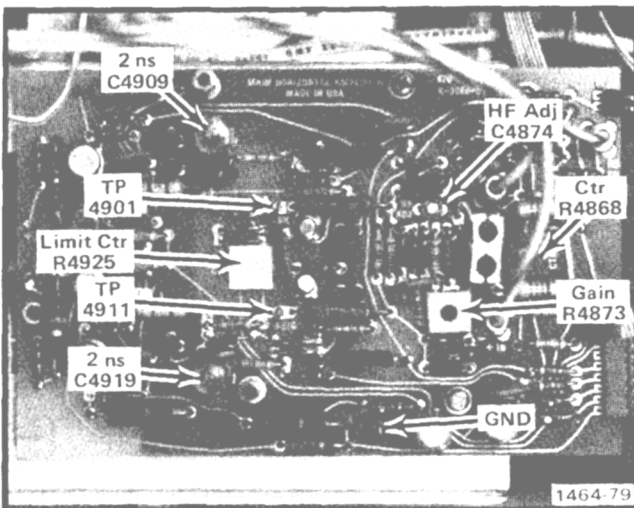
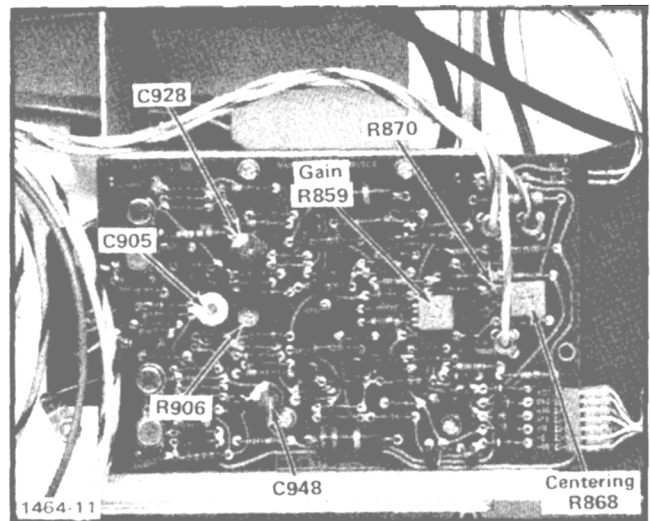

Fig. 2-6A. Location of Horizontal adjustments (SN B150000-above).
Fig. 2-6B. Location of Horizontal adjustments (SN B149999-below).
The horizontal system adjustments are located on the main Horizontal Amplifier board (top of instrument). See Fig. 2-6A and Fig. 2-6B for location of adjustments.
e. Short TP4901 and TP4911 with a 12-inch jumper cable. See Fig. 2-6A for location.
Adjustment (see Fig. 2-6B)	Primary Area of Pulse Affected